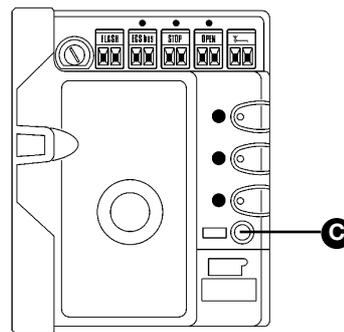

Figure 73
- 4 Press the yellow button **[C]** in figure 73 to execute a complete opening and closing manoeuvre. During these two manoeuvres the control unit memorizes the force needed at each point along the travel. It is important that these two first manoeuvres are not interrupted by any commands.